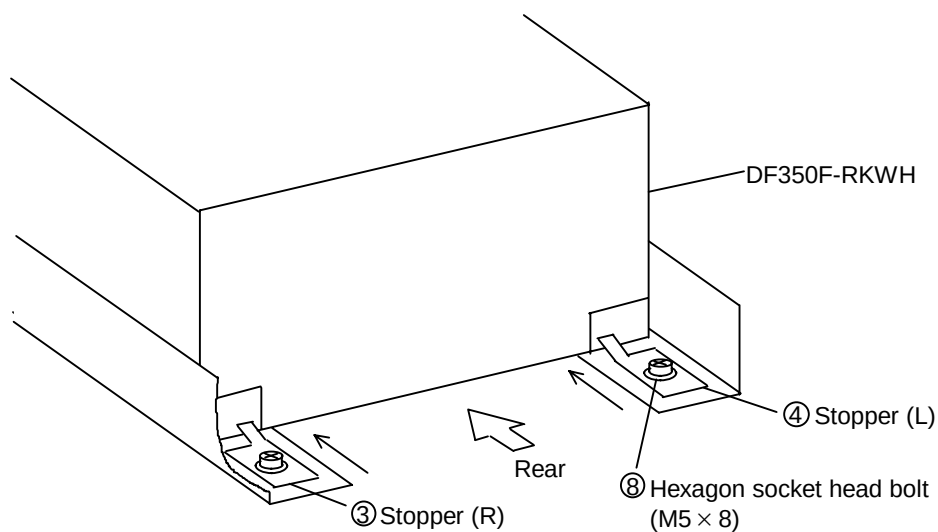

Figure 3.4.8 Securing the Rear Side of the Subsystem
3.4.7 Securing the rear side of the subsystem (See Figure 3.4.8.)